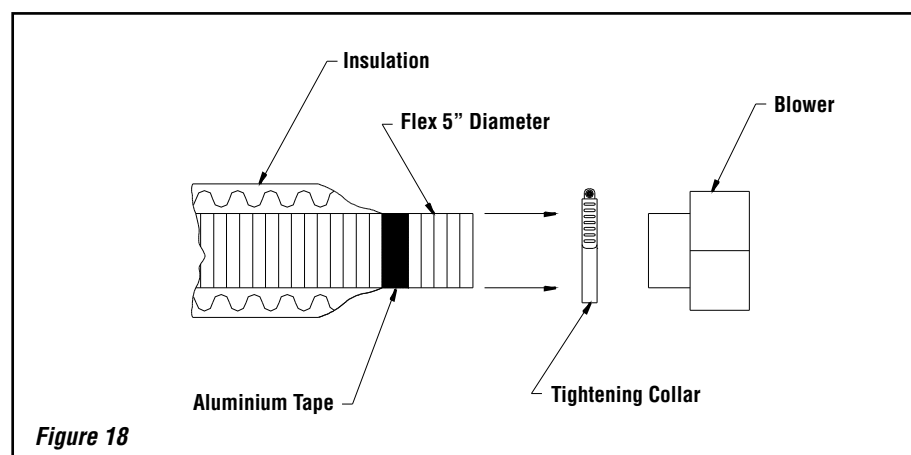

Figure 18
- D) Attach the flexible pipe to the fan, using the collars (**Figure 18**).